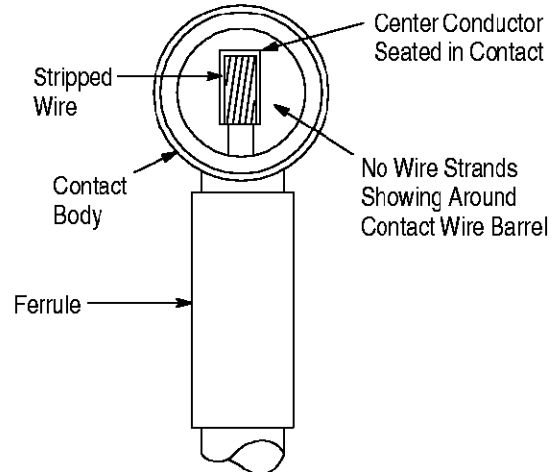

Figure 5
- Twist wire strands; then insert center conductor into contact body, making sure center conductor is FULLY seated in the contact body. No wire strands should be sticking out around the wire barrel of the contact assembly, as shown in Figure 5.